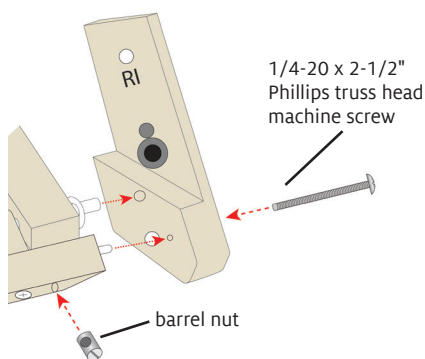

FIGURE 9: INSTALL INSIDE BLOCKS ON TREADLE ASSEMBLY
15. On the inner side of the RI height extender block, you will see two holes that do not go all the way through the block. Fit the metal treadle bar into the larger hole and the pin of the treadle support into the smaller hole, as shown in Figure 9.
16. From the outer side of the RI height extender block, you will see one hole at the bottom. Insert a 1/4-20 x 2-1/2" Phillips truss head machine screw into this hole, then partway into the treadle support (Figure 9). Insert a barrel nut into the hole of the treadle support, holding it in place with a slotted (flat) screwdriver. Fully tighten the 1/4-20 x 2-1/2" Phillips truss head machine screw into the barrel nut.